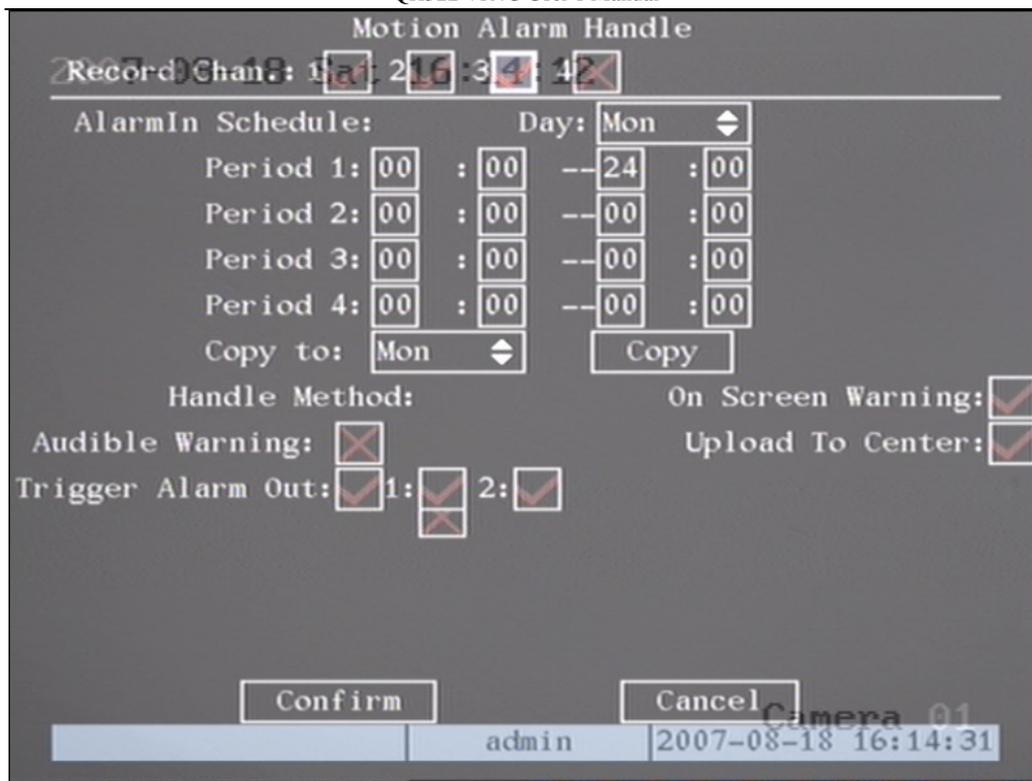

Fig 5.18 Motion alarm handle setup
Step 5: Motion alarm policy: Move “Active Frame” to the corresponding “Policy” button of motion detection alarm, press **【ENTER】** key to enter into “Motion Alarm Handle” menu shown as fig 5.18: